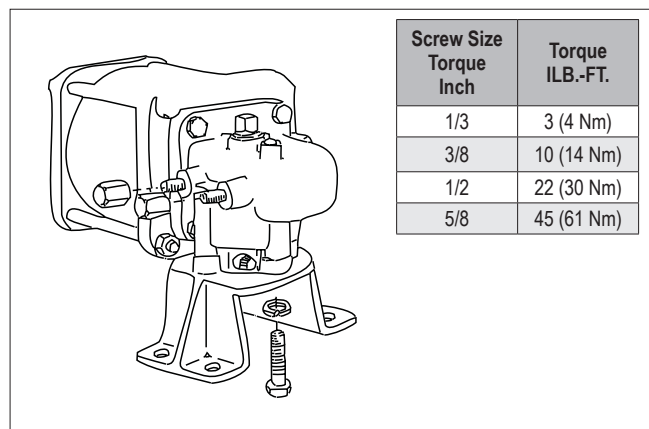

Figure 5.
- Assemble bracket to actuator as shown in **Figure 5**, torquing screws to the values shown in the table.